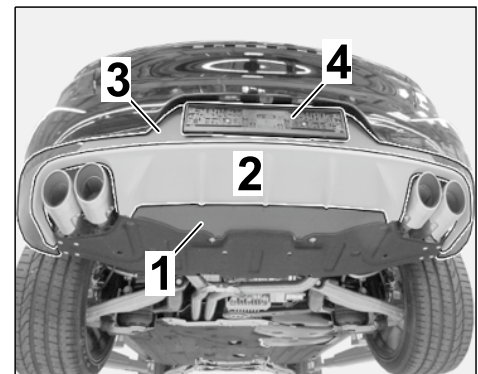

Figure 18
4.6 Install rear apron with new underride guide (⇒ *Figure 18*; ⇒ *Workshop Manual '635519 Removing and installing rear apron*).